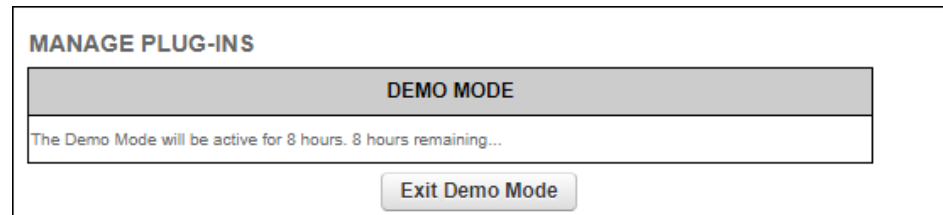

Figure 42. MANAGE PLUG-INS dialog (Demo Mode activated)
- The **Demo Mode** activation dialog will be shown (Figure 42 \(page 92\)). A countdown timer shows how much Demo time remains.